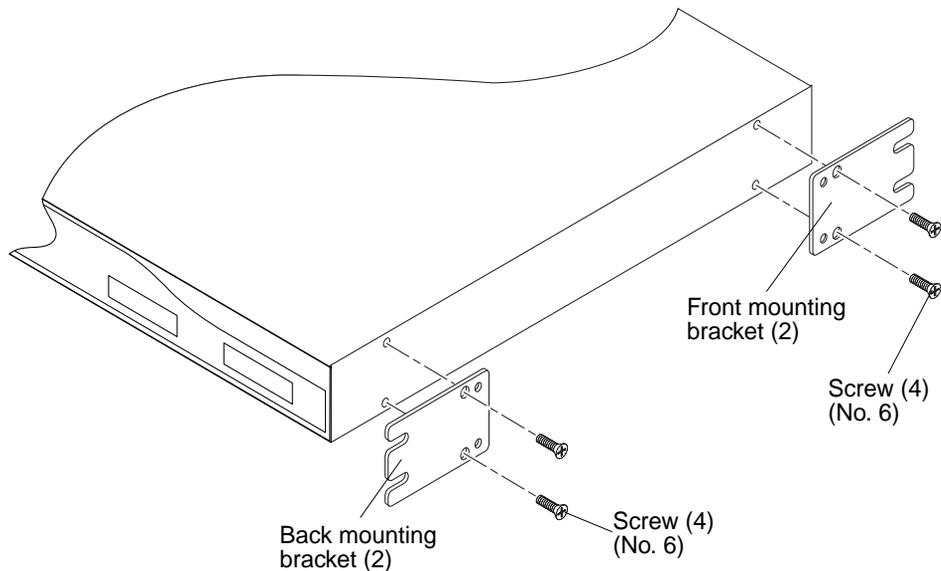

FIGURE 11 Removing and Replacing the C3524 Ethernet Brackets
- 8. Using a No. 2 Phillips screwdriver, remove the two screws securing each front and back mounting bracket from the Ethernet switch (FIGURE 11).**
- 2. Using a No. 2 Phillips screwdriver, replace the two screws securing each front and back mounting bracket to the Ethernet switch (FIGURE 11).**